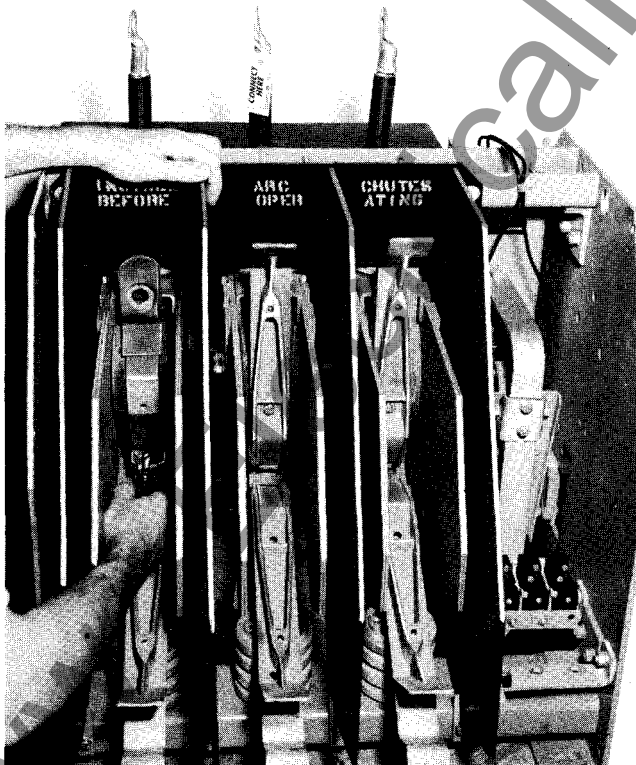

Fig. 8. Method of removing stationary contact.
4. See Fig. 8. Remove the stationary contact by removing the bolt immediately above the contact. Use either a standard 14-inch screwdriver or 1/2-inch socket wrench.